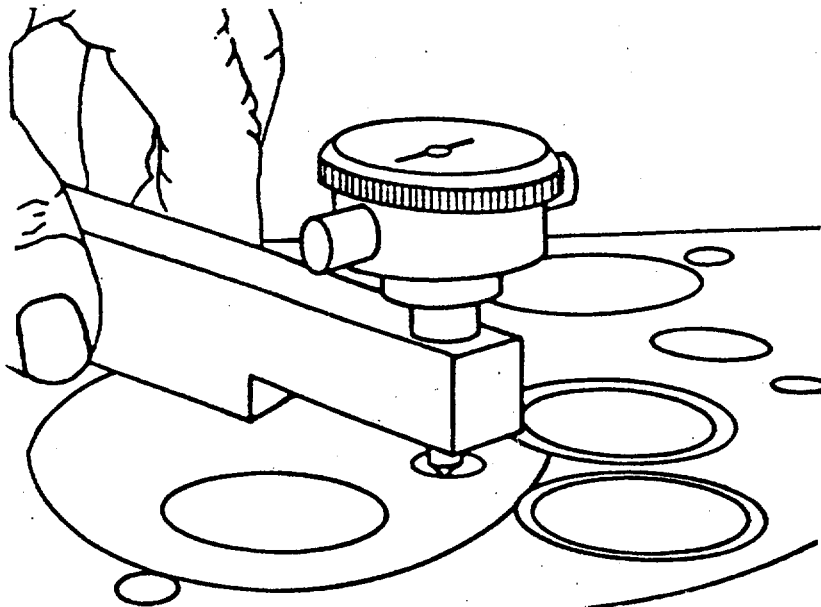

FIGURE 4-13. *Using Gauge Block.*
- 2 Use gauge block to measure the protrusion of the injector tip to find the amount to cut from the sleeve (FIGURE 4-13).
- (i) Use the gauge block to measure the protrusion of the injector tip (FIGURE 4-13).